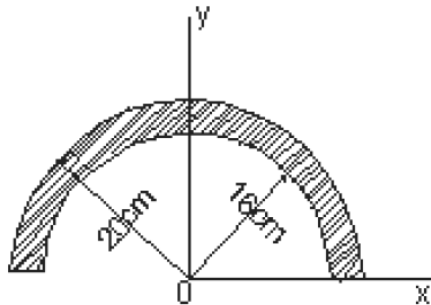

Fig.2
- 4 a) Find the coordinates of centroid of shaded area as shown in below figure 2. All dimensions are in cm. 8